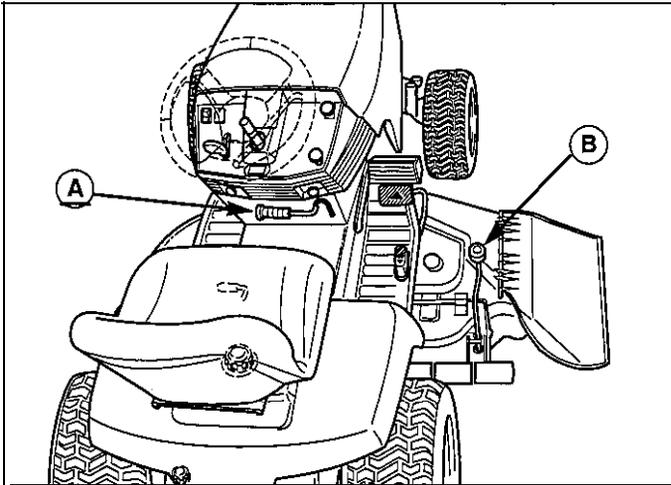

Figure 10. Raising & Lowering Mower
2. Place mower height adjuster (B, Figure 10) in the lowest cutting position. Place the mower lift lever in the lowest position, also. Slide mower deck under right side of tractor so that mower hitch is aligned with front tractor hitch.